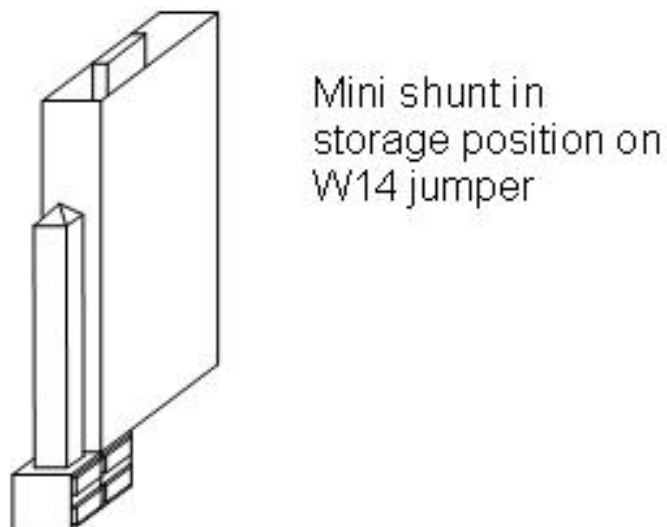

Figure 1 – Mini Shunt
- 4.11 Move the mini shunt to the storage position on the W14 jumper for both the Normal and Standby System CPU modules. See Figure 1.